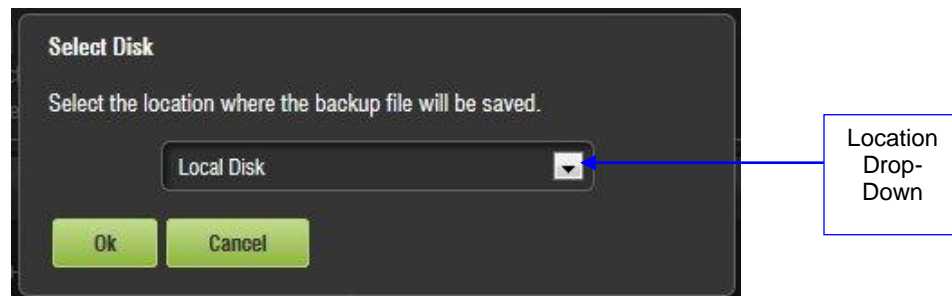

Figure 197: Generate Button
- The following window will appear (Figure 197). Select the location where you want to save the backup file. You can either save to local disk (RAID) or to an external drive. Click on the Ok button.